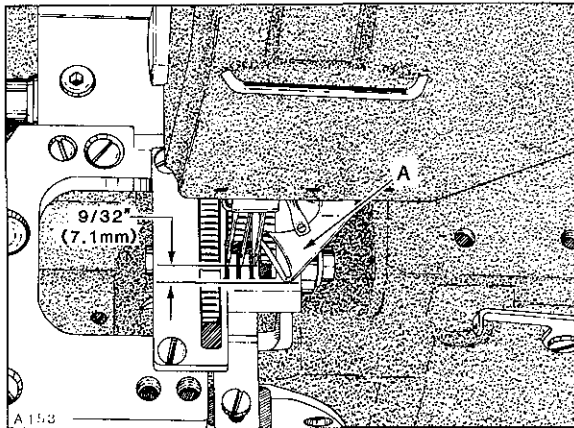
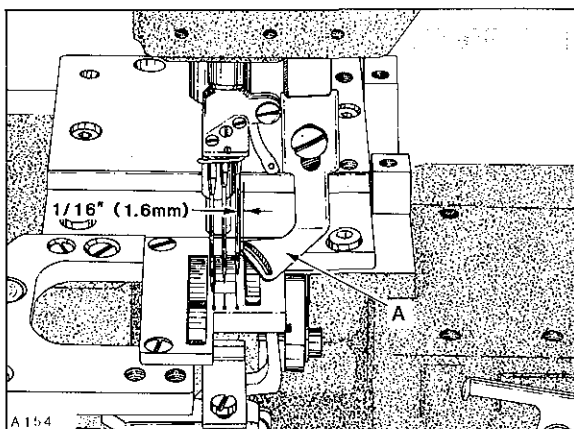
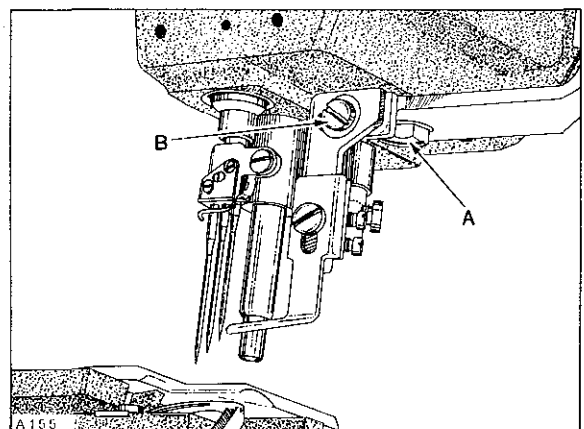

Fig. 23
Fig. 24
Fig. 25
Stationary spreader thread guide (A, Fig. 23) should be positioned with its outer front edge  $9/32$  inch (7.1mm) to the front of the centerline of right needle. The left rear edge of the (banana shaped) SLOT in guide (A), should be positioned  $1/16$  inch (1.6mm) to the right of the centerline of right needle, as shown in Figure 24. Front to rear adjustment can be made by loosening screw (A, Fig. 25) while left to right adjustment can be made by loosening screw (B). When stationary spreader thread guide is properly set, tighten screws (A and B) securely.